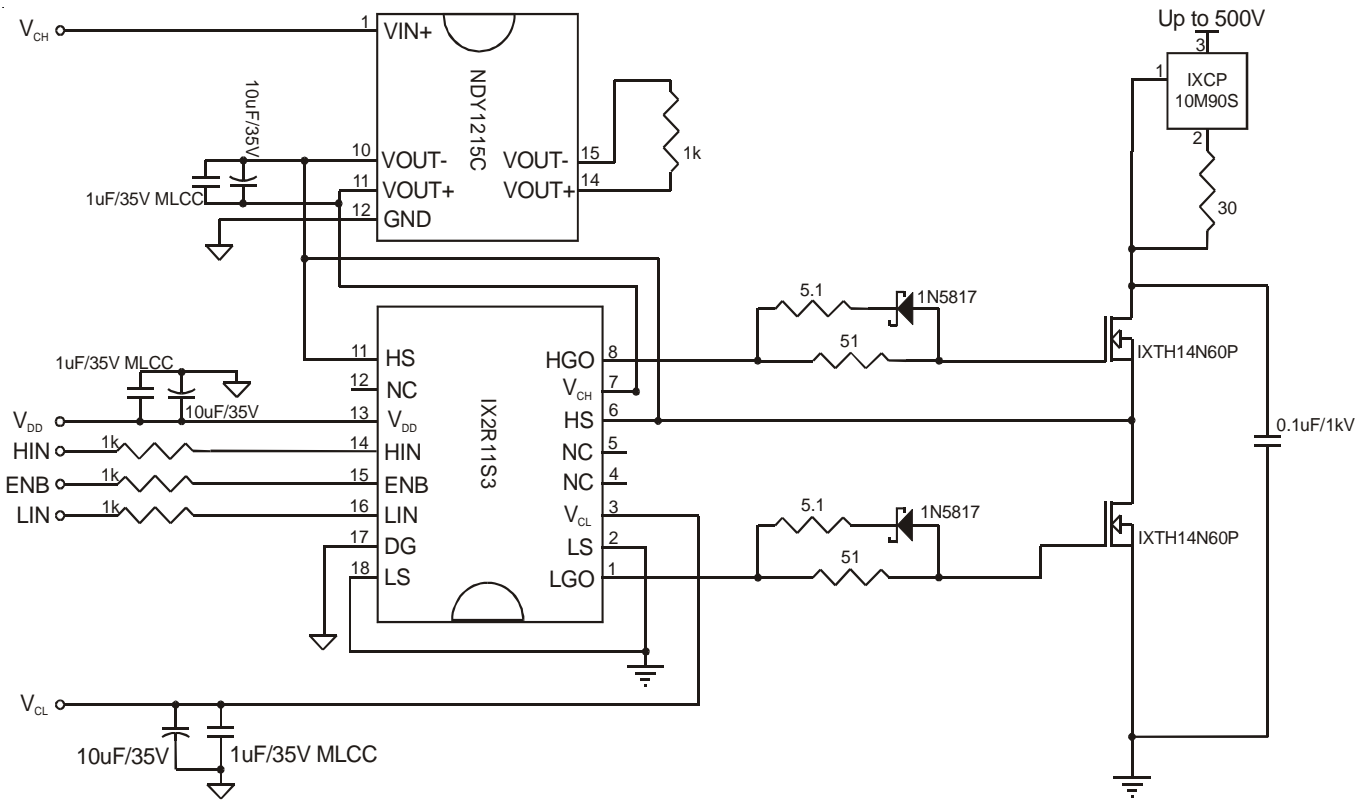

Figure 11. Test circuit for low frequency, 75kHz, operation.
* Operational voltage rating of 500V determined in a typical half-bridge circuit configuration (refer to Figure 10 and Figure 11).